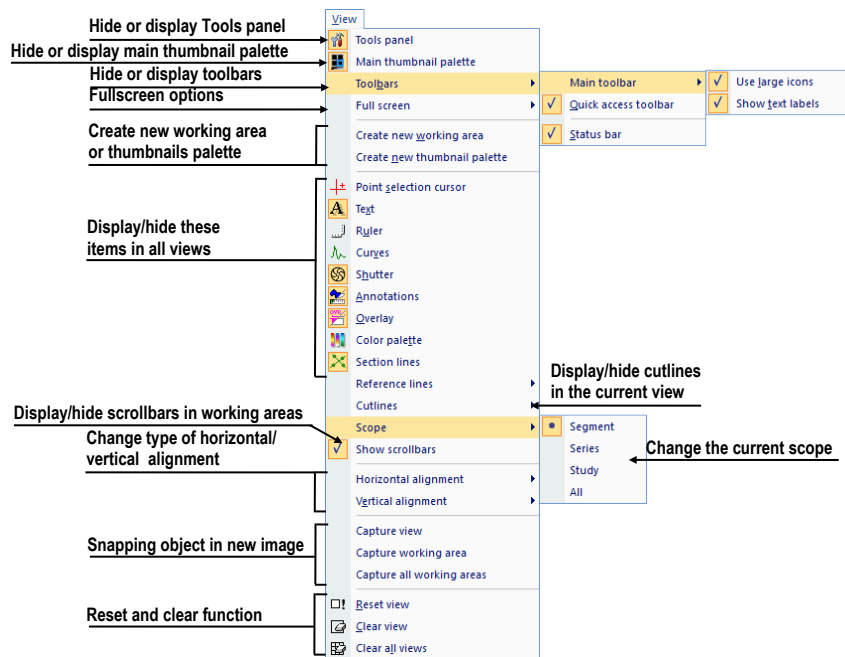

Figure 47 – View menu
- **View** – displaying/hiding toolbars, image descriptions, cutlines, reference lines, scrollbars in working areas, changing the current scope, view size, deleting views, creating new working areas or thumbnails palettes and changing the alignment of the images in the views (see Figure 47).